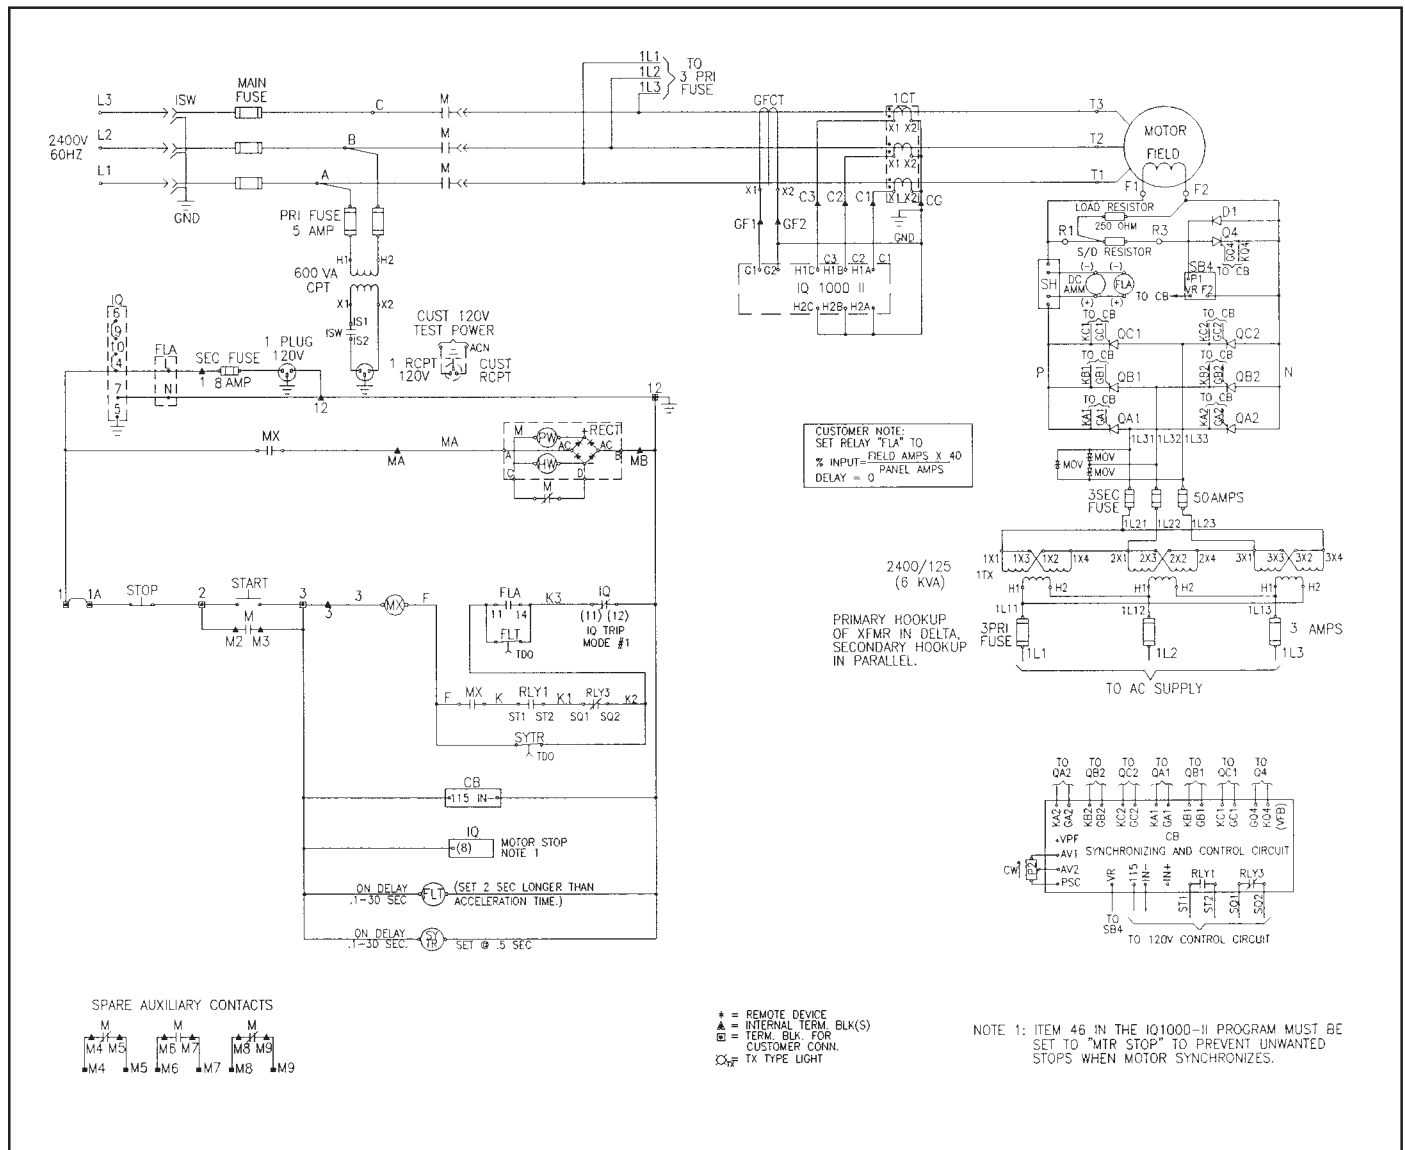
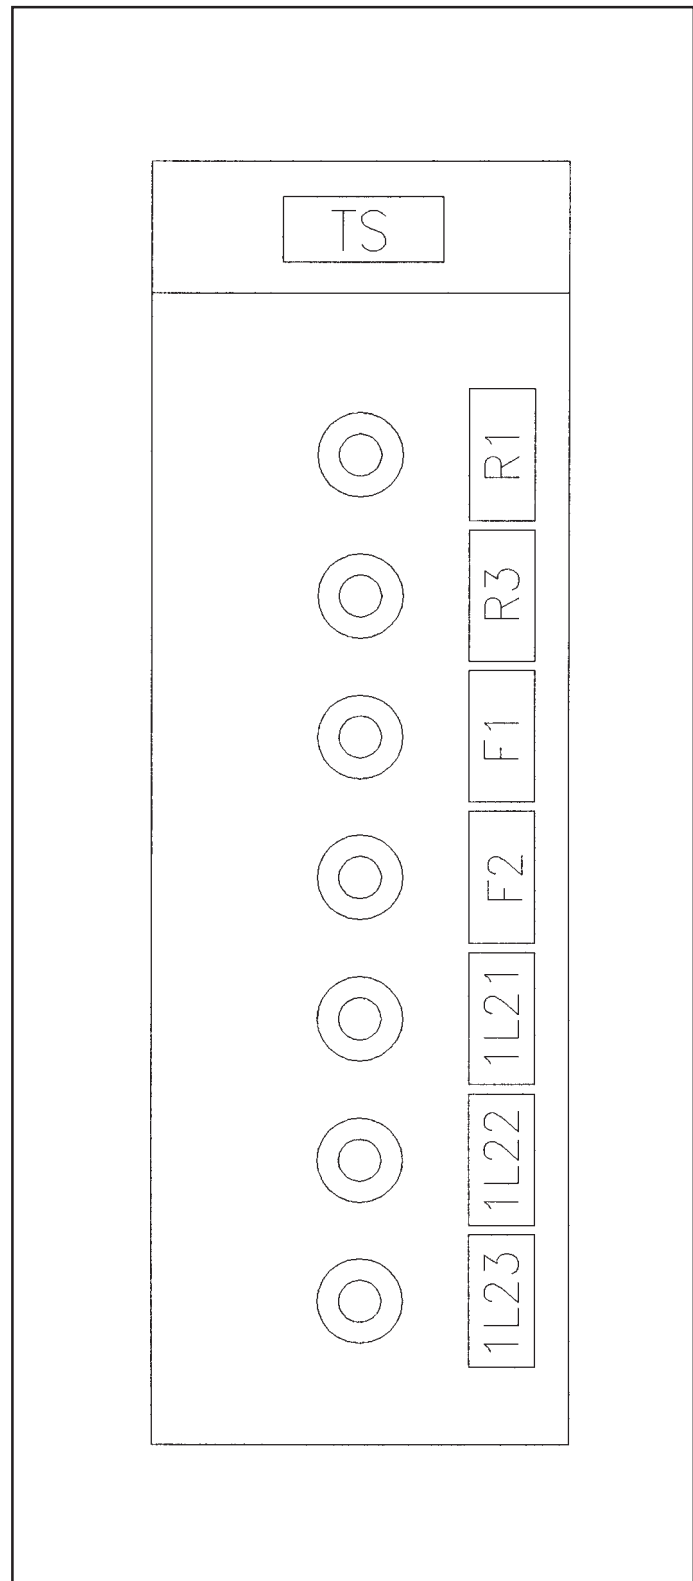

Fig. 4 Mark V Controller Schematic
Fig. 8 Cubicle Terminal Strip
Mark V controllers for synchronous motors consist of the basic components shown in Figure 4. Their functions are as follows:
The starting and field-discharge resistor (S/D RES) is used to improve the motor starting torque and to limit the induced field voltage during starting or when the field excitation is removed. The resistor current and ohmic values are determined by the motor designer. The motor controller is designed to operate motors with less than 1,500 volts rms in the field during starting. The current flowing to the resistor is controlled by diode D1 and SCR Q4 (Fig. 4). Voltage feedback (VR on the synchronizing control board) provides information about the induced field voltage, frequency, and phase angle.
Figure 4 shows the field power supply controller in conjunction with the motor controller for a synchronous motor starter. Note that the connection to the field supply transformer is between the contactor (M) and the IQ component so that the current transformers sense motor stator current only.
To adjust the motor field voltage, use the external 2000 ohm potentiometer (P2) shown in Figure 4.
Each Mark V synchronous motor controller has a terminal strip consisting of seven studs on standoff insulators mounted on a subpanel and labeled as shown in Figure 8. Disconnect leads from these studs as necessary to conduct the following tests:
3. Measure the resistance of the starting and discharge resistor (S/D RES on schematic diagram, Figure 4) at terminals R1 to R3 on the terminal strip (Figure 8). The measured value should be as shown on the diagram accompanying the order. Measure the resistance between terminals VR and KA1 on the synchronous control board (CB). The reading should be 50 ohms + R1-R3 value.